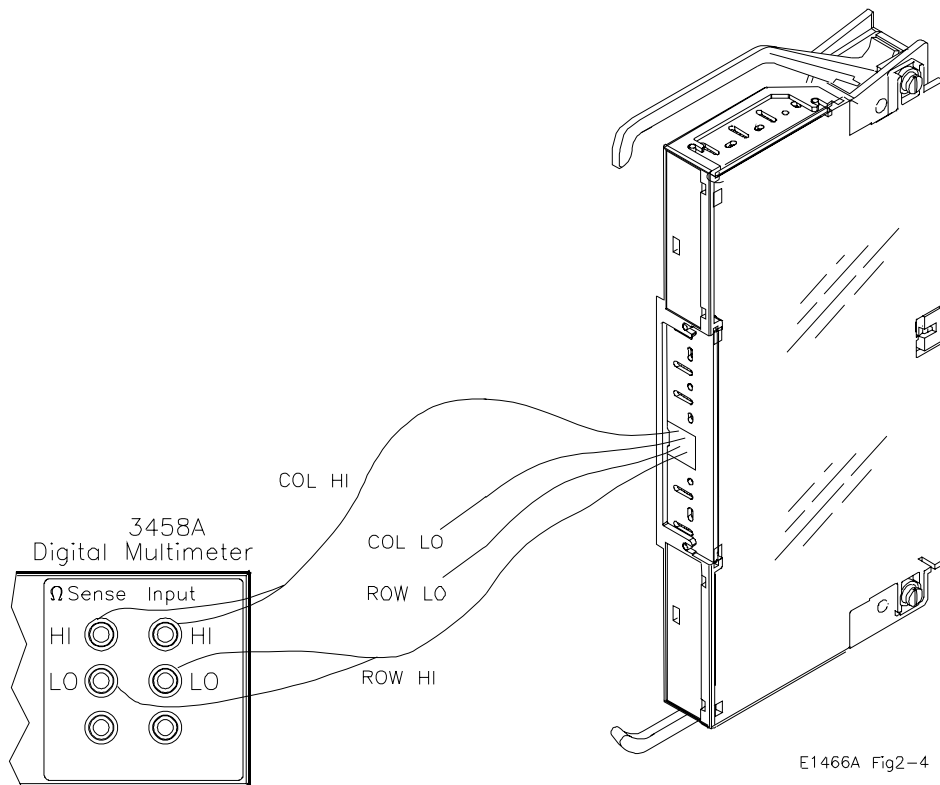

Figure 2-4. Column HI to Row HI Test Connections
- Connect DMM leads as shown in Figure 2-4